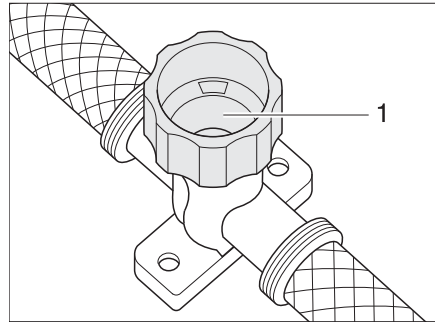

Fig. 131 Drain cock for water heater
- Close the drain cock. To do so, turn the cap (Fig. 131,1) clockwise.
- Open the drain cock of the water heater. To do so turn the cap (Fig. 131,1) anti-clockwise.